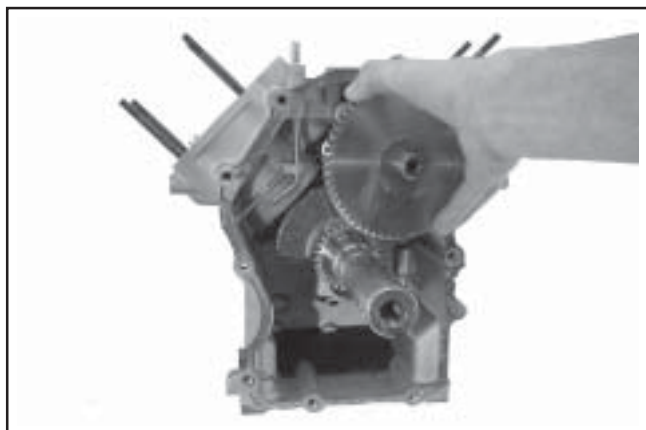

Figure 9-60. Removing Camshaft with Shim.
1. Remove the camshaft and shims. See Figure 9-60.